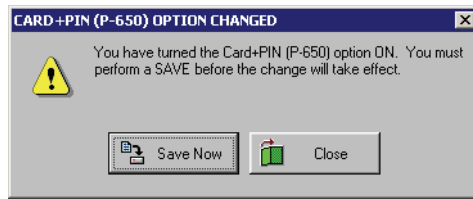

Figure 2-26: Card+PIN (P-650) Option Changed Warning - ON
3. To enable the Card+PIN (P-650) feature, click in the check box beside the **Card+PIN (P-650) ON** field. A check mark appears in the check box and the following window appears (see Figure 2-26 on page 23 of this section). When there is a check in the box, the feature is enabled and you will be able to view the individual card PINs associated with each card in the User Spreadsheet window.